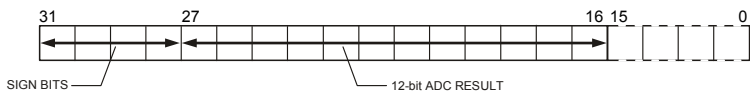

Figure 10: ADC Result Format
The top 4 bits are the sign bits and the 12-bit result is placed from bit 16 to 27 as shown in Figure 10. Again, it should be noted that in fully differential mode, the result is represented in two’s complement format, and in pseudo differential and single-ended mode, the result is represented in straight binary format.
- **ADCDAT**: ADC Data Result Register, hold the 12-bit ADC result as shown Figure 10